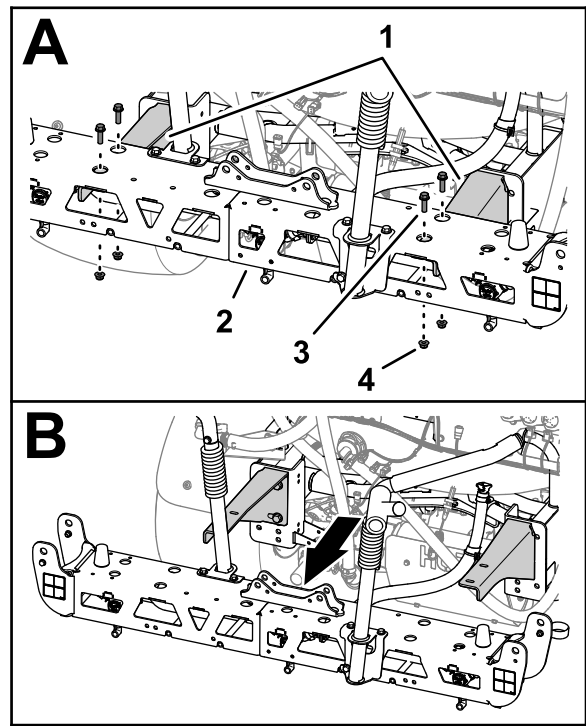

Figure 50
3. Remove the 4 flange-head bolts (3/8 x 1-1/4 inches) and 4 flange locknuts (3/8 inch) that secure the center spray section to the support brackets (Figure 50).
4. Lift the center spray section (Figure 50), and remove it from the machine.